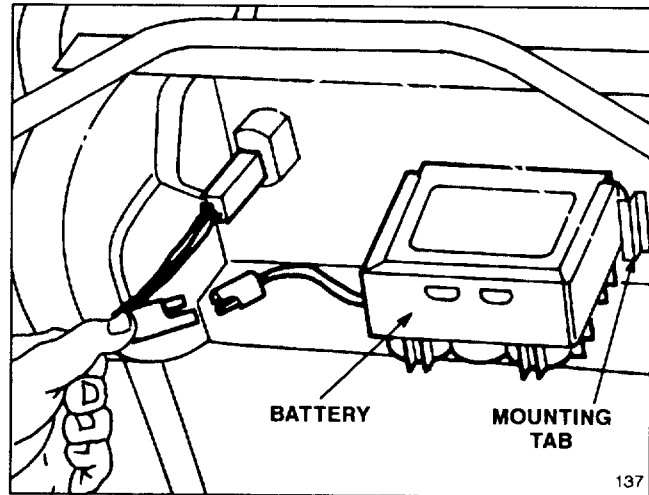

Figure 4
2. Slide battery, decal side up, between mounting tabs on back of control panel and connect wires (Fig. 4). Insert key into switch when ready to start engine.